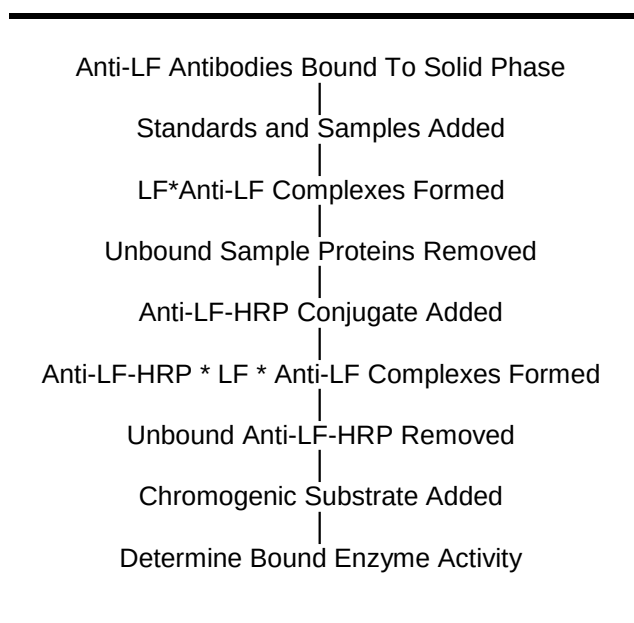

Figure 1
The principle of the double antibody sandwich ELISA is represented in Figure 1. In this assay the Lactoferrin (LF) present in samples reacts with the anti-LF antibodies, which have been adsorbed to the surface of polystyrene microtitre wells. After the removal of unbound proteins by washing, anti-LF antibodies conjugated with horseradish peroxidase (HRP) are added. These enzyme-labeled antibodies form complexes with the previously bound LF. Following another washing step, the enzyme bound to the immunosorbent is assayed by the addition of a chromogenic substrate, 3,3',5,5'-tetramethylbenzidine (TMB). The quantity of bound enzyme varies directly with the concentration of LF in the sample tested; thus, the absorbance, at 450 nm, is a measure of the concentration of LF in the test sample. The quantity of LF in the test sample can be interpolated from the standard curve constructed from the standards, and corrected for sample dilution.